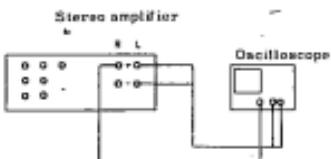

Fig. 5
##### (2) Monitor of output signal of stereo amplifier (See Fig. 5)